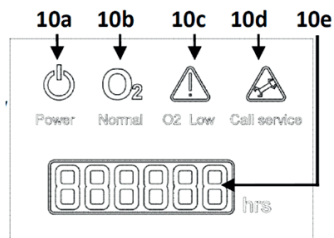

Figure 4
\* The following parts are illustrated with reference to Figure 4 \*
10. LED Display (Reference figure 4)